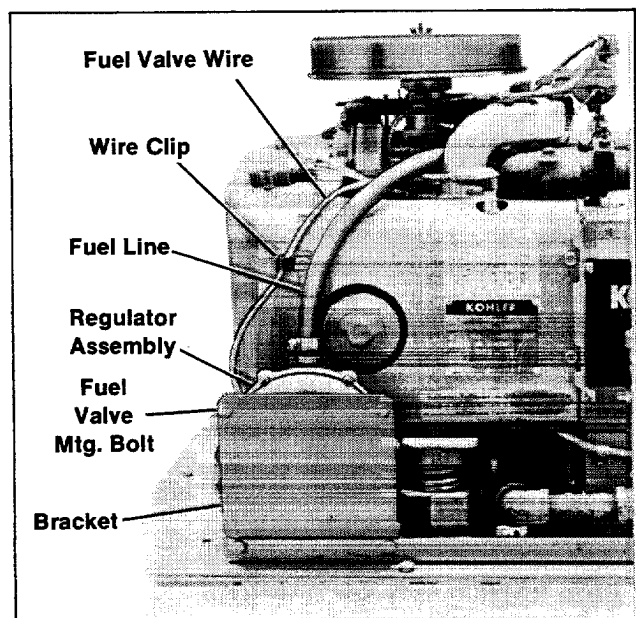

Figure 5. LP Regulator
4. To attach fuel valve wires: Mount lead (LN-1811-1404) to ignition coil. Tighten the leads to ignition coil with nut. Take the sleeving (232328) and place over fuel valve wire. Take end of fuel valve lead and strip to 0.38" and attach to lead from ignition coil by crimping insulink. Take the second lead and attach to regulator mounting bracket (Figure 5). Attach wire clip (X-672-10) to bolt above oil filter (on blower housing), and insert fuel valve lead to ignition coil. See Figure 5.